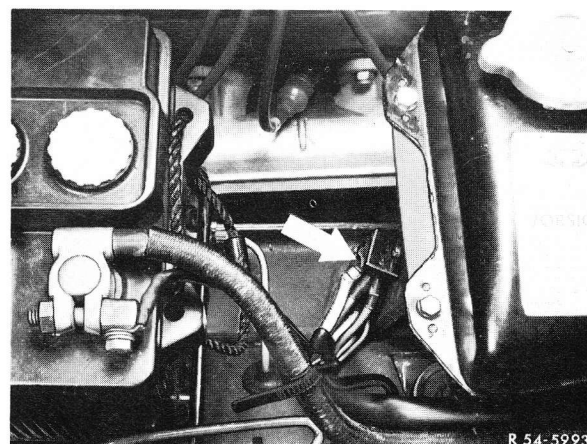

Fig. 3
- 5 Loosen ground connection and positive cable of battery and cable on triple cable connector (arrow in Fig. 3). Remove holding clamp on cooling water compensating tank with a screw driver. Pull out positive cable under compensating tank.